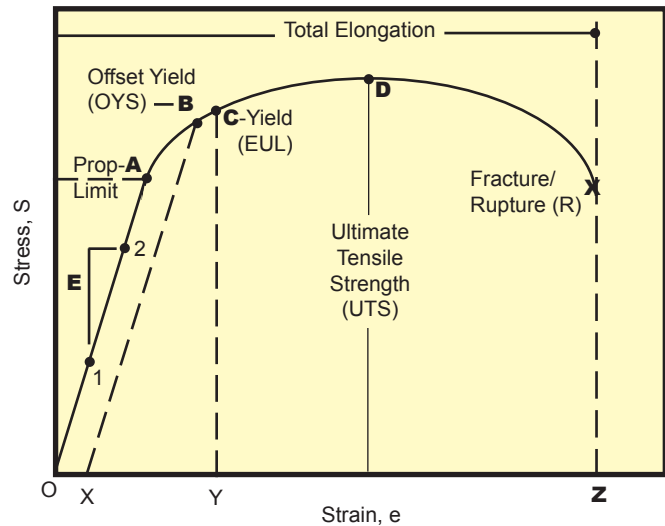

Figure 1 - Engineering Stress-Strain Curve.
A graphical description of the amount of deflection under load for a given material is the stress-strain curve (Figure 1). Engineering stress (S) is obtained by dividing the load (P) at any given time by the original cross sectional area ( $A_0$ ) of the specimen.
Figure 1 depicts a typical stress-strain curve. The shape and magnitude of the curve is dependent on the type of metal being tested. In Figure 1, point **A** represents the proportional limit of a material. A material loaded in tension beyond point **A** when unloaded will exhibit permanent deformation. The proportional limit is often times difficult to calculate, therefore, two practical measurements, Offset Yield Strength and Yield by Extension Under Load (EUL) were developed to approximate the proportional limit. The initial portion of the curve below point **A** represents the elastic region and is approximated by a straight line. The slope (E) of the curve in the elastic region is defined as Young's Modulus of Elasticity and is a measure of material stiffness.
Point **B** represents the Offset Yield Strength and is found by constructing a line X-B parallel to the curve in the elastic region. Line X-B is offset a strain amount O-X that is typically 0.2% of the gage length. Point **C** represents the Yield Strength by Extension Under Load (EUL) and is found by constructing a vertical line Y-C. Line Y-C is offset a strain amount O-Y that is typically 0.5% of gage length. The Ultimate Tensile Strength or peak stress is represented by point **D** in Figure 1. Total elongation, which includes both elastic and plastic deformation, is the amount of uniaxial strain at fracture and is depicted as strain at point **Z**. Percent elongation at break is determined by removing the fractured specimen from the grips; fitting the broken ends together and measuring the distance between gage marks. Percent elongation at break reports the amount of plastic deformation. (The gage length used for measurement is reported with the result.)